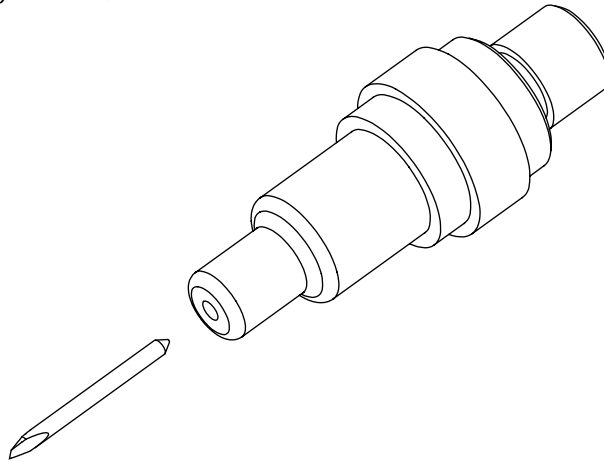

FIGURE 1-5
1. As shown in Figure 1-5, insert the knife blade into the knife holder.